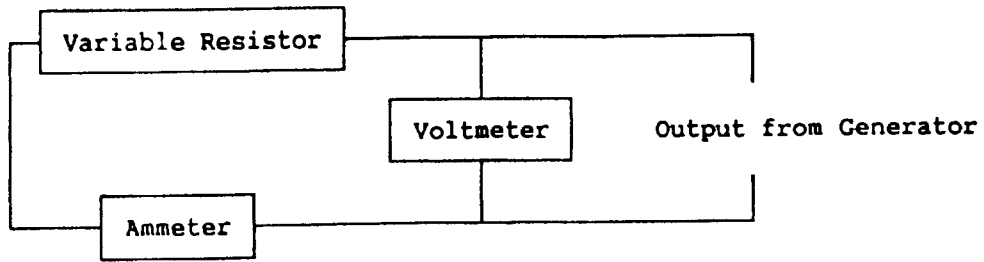

Figure 1 Load Test Connections
- 1 Disconnect the generator from the vehicle and connect to variable resistor as shown in Figure 1.